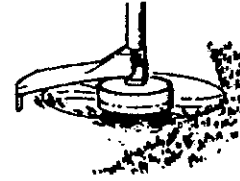

Figure 16
3. **MOWING**- Figure 16 . Your trimmer is ideal for mowing in places conventional lawn mowers cannot reach. In the mowing position, keep the line parallel to the ground. Avoid pressing the head into the ground as this can scalp the ground and damage the tool.